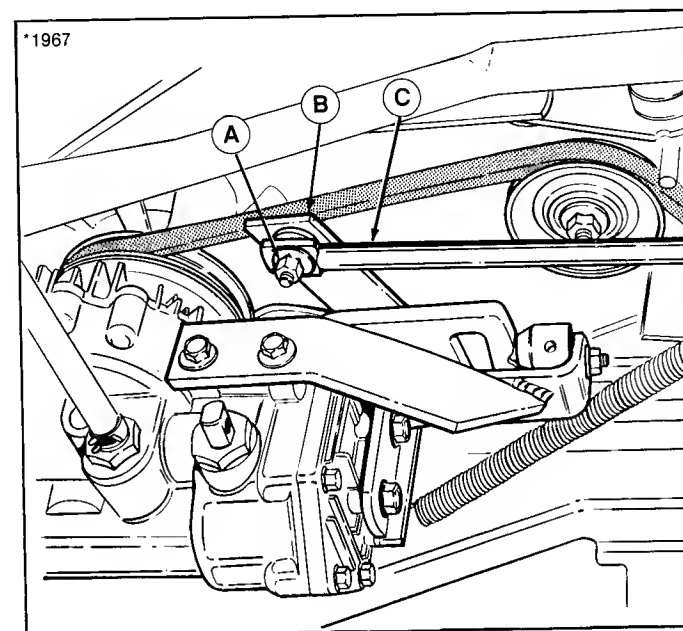

Figure 31.
2. Loosen nut (A, figure 31) and push transmission lever firmly against stop in neutral gate.